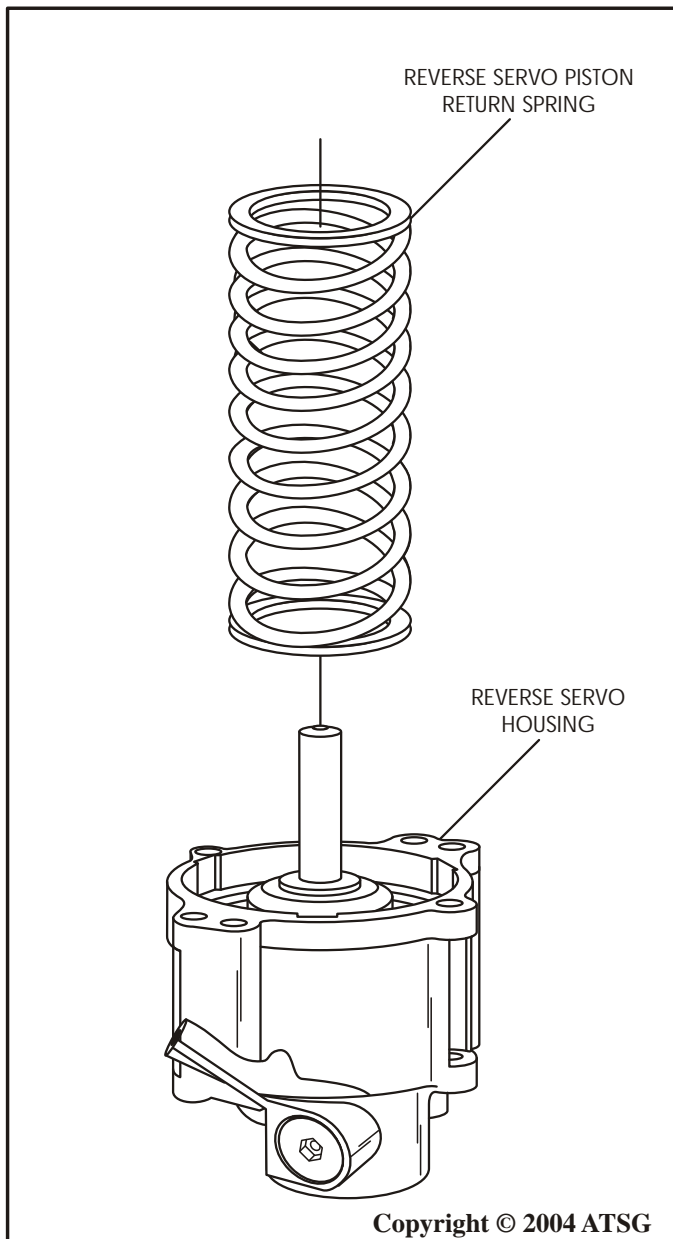

Figure 116
10. Install the reverse servo piston return spring in reverse servo housing (See Figure 116).